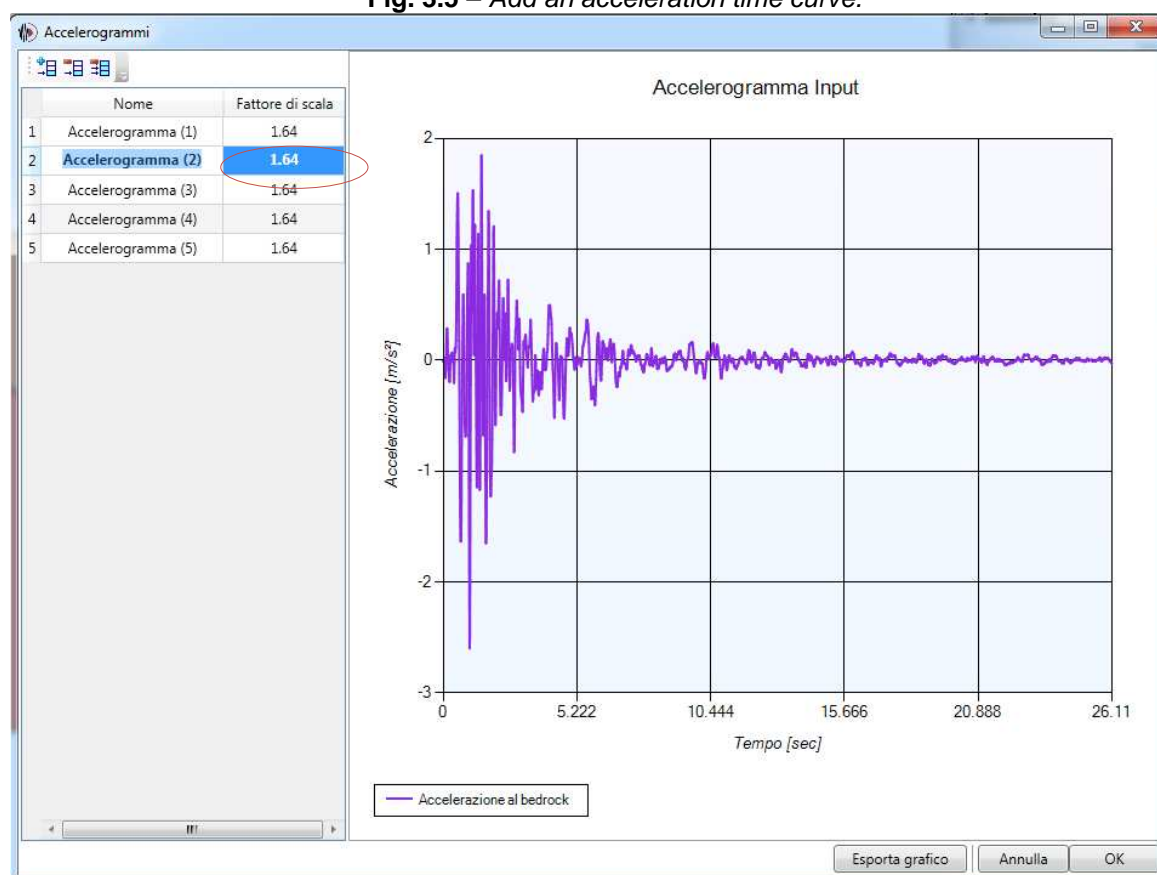

Fig. 3.6 – Viewing an acceleration-time curve.
N.B. Scale factor (circled in red in Fig. 3.6) can be mean as the ratio between user PGA used when adding the acceleration-time curve and the acceleration peak of the record added. This value can be changed by the user in every moment.